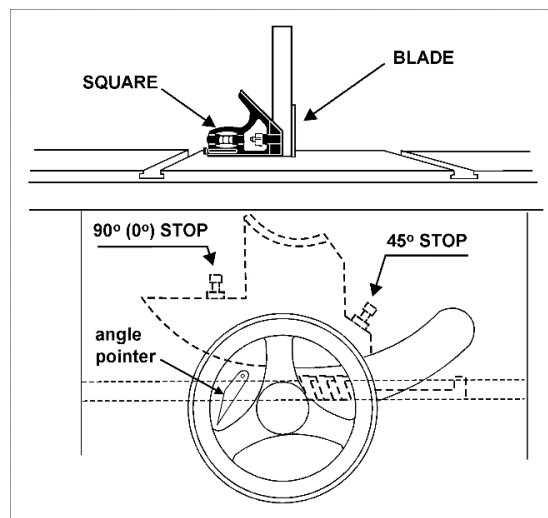

Figure 8-5: blade stops
5. If adjustment is required, loosen nut on 90° stop screw (Figure 8-5) with 13mm wrench, and turn screw to proper height. Verify setting and retighten nut against trunnion.
6. Check pointer position on scale (Figure 8-5). If needed, loosen screw and adjust pointer to zero. Retighten screw.
Adjust 45° stop shown in Figure 8-5. Confirm setting, then retighten nut.